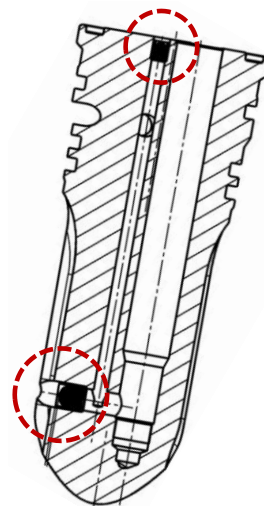
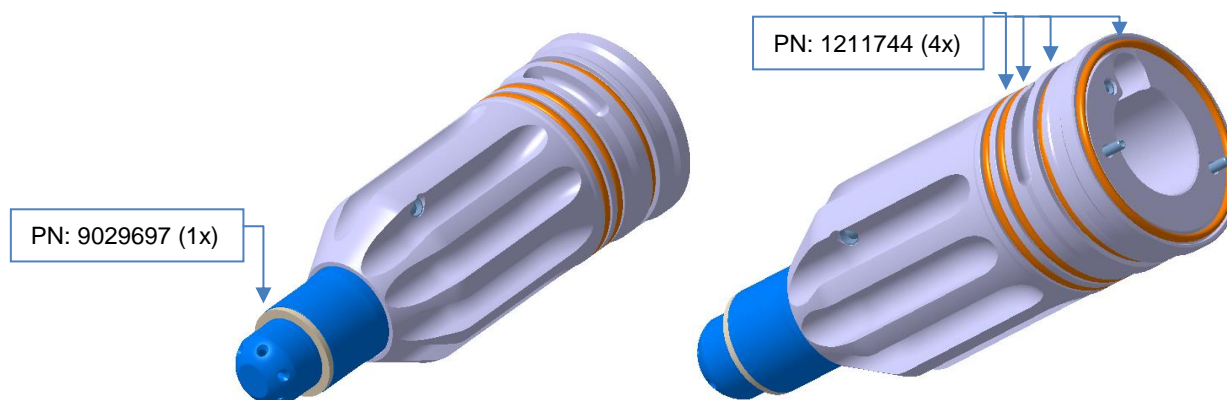

Figure 13: Cut-view of spark plug sleeve with encircled closing plugs
Figure 19: Prechamber & spark-plug sleeve assembly with O-rings and metal gasket
**Important:** Only the spark plug sleeve assembly part numbers shown in Table 9 (columns 4 and 5 with and without prechamber) are to be used. These assemblies contain the two closing plugs (see Figure 13) which cannot be installed in field as well as the two spring dowels. Please perform visual check of the installed plugs before sleeve installation. The assembly of the spark plug sleeve with prechamber, closing plugs, spring dowels, O-rings and prechamber metal gasket is shown in Figure 19.